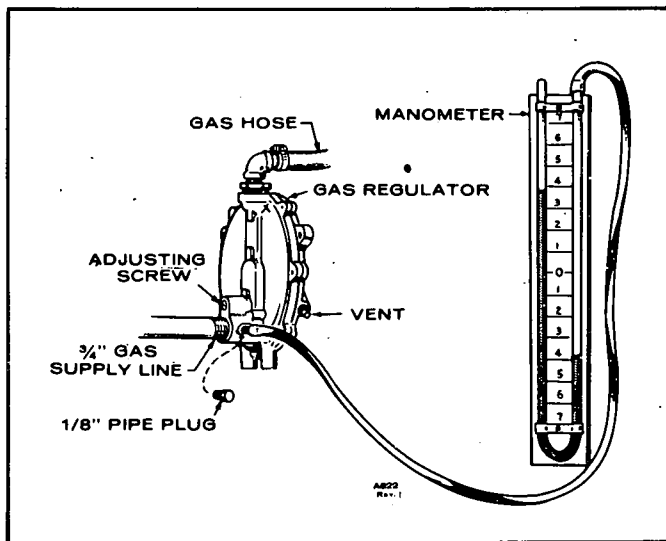

FIGURE 17. TESTING WITH MANOMETER
Gas Regulator Adjustment: This regulator was factory adjusted to lock-off at a pressure of 4 oz. (7" water column). The regulator will operate satisfactorily at incoming pressures of from 2 to 4 oz. If your gas supply pressure is within these limits, no regulator adjustment is required. If your gas supply pressure is under 2 oz., the regulator will not operate. If your gas supply pressure is between 4 and 8 oz., install an appliance regulator set for 2 oz. ahead of the regulator, or adjust the regulator as follows and reference to Figure 17.
1. Refer to Figure 17.